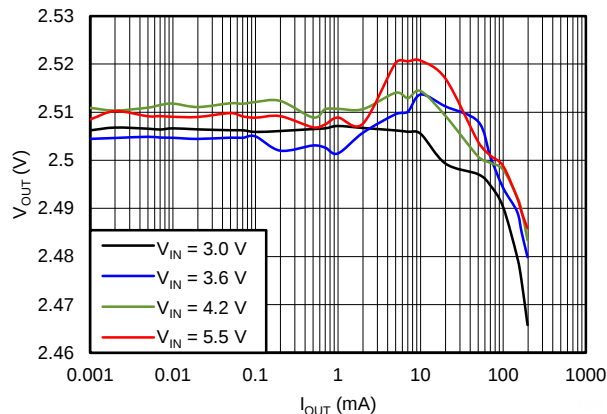

Figure 46. Output Voltage vs Output Current,  $V_{OUT} = 2.5\text{ V}$
| $V_{OUT}$ (DC)                                                                                               | $V_O = 2.5$ V                               | vs. Output Current                                                               | <a href="#">Figure 46</a> |
|                                                                                                              |                                             | vs. Input Voltage                                                                | <a href="#">Figure 46</a> |